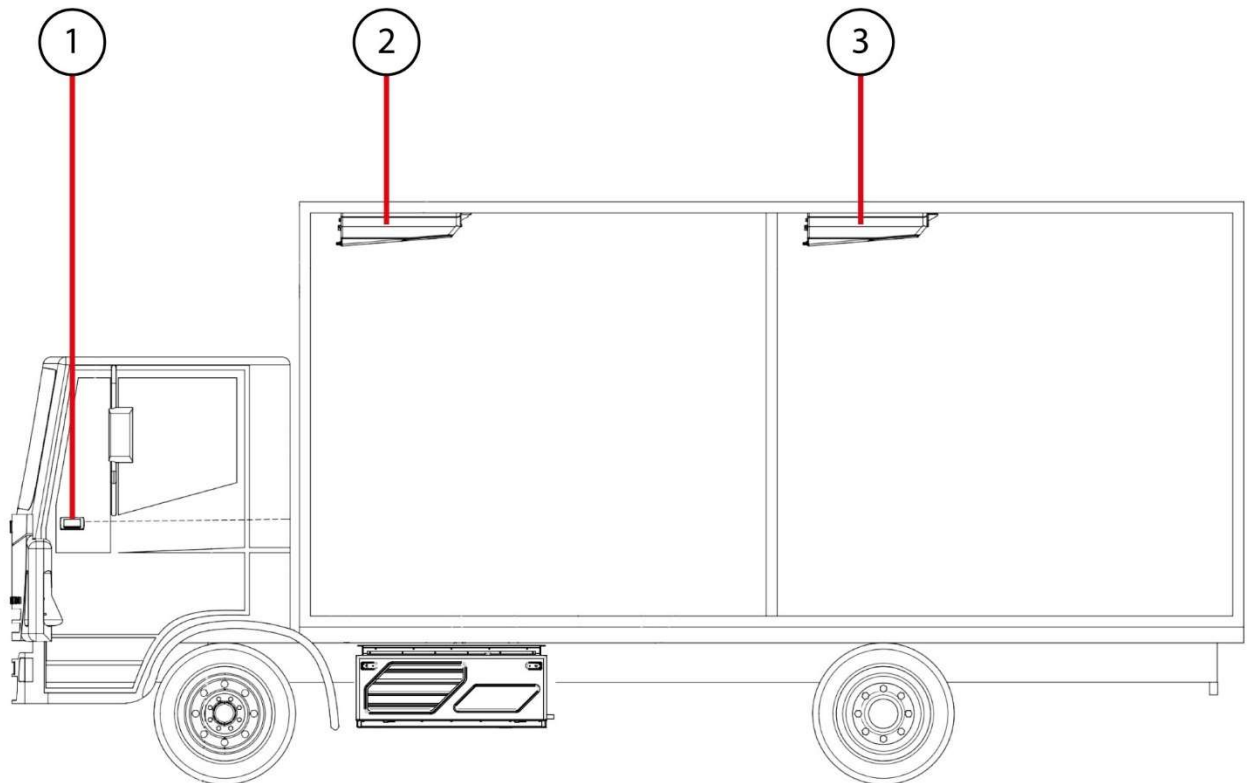

Figure 6 - Multi temperature unit evaporators
The multi temperature unit allows the management of two compartments at a different temperature. The unit is equipped with two evaporators (2 and 3, Figure 6) and a dedicated in-cab controller (1), which manages the two temperatures independently of each other. The heating function is also included in the operating logics.